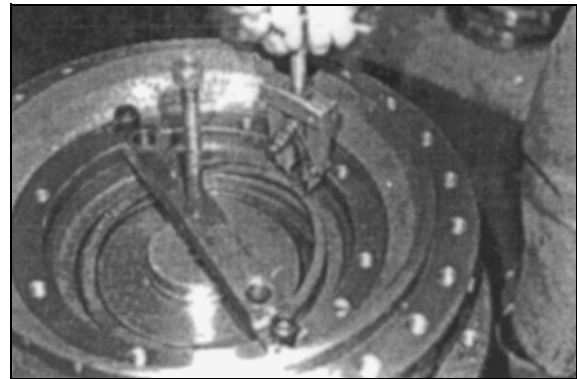

Figure 68
6. Remove retaining ring from hub groove using pliers. Figure 68.